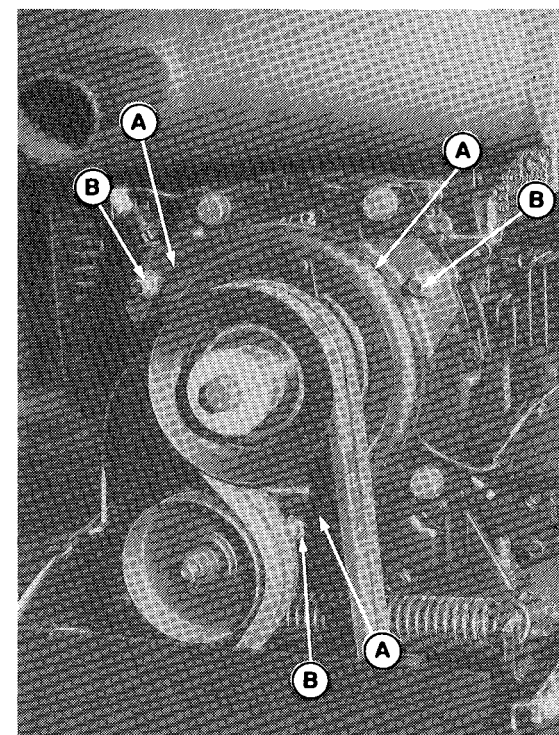

Figure 11. Front Clutch Adjustment
2. Use a 0.015 to 0.020 feeler gauge to check the front clutch at three places (A, figure 11). Insert the gauge. There should be a slight resistance as gauge is moved in and out of slot. If tight, or loose, go to step 3.
3. Loosen or tighten one of the nuts (B, figure 11) to adjust one of the three places. Loosen nut to increase gap; tighten to decrease gap.